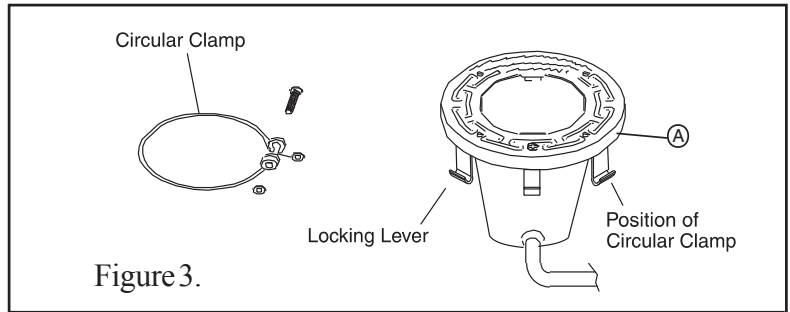

Figure 3.
- (1) With the light resting on its base, align the face ring, and lens/gasket on top of the light shell as described in Step 6. A NEW LENS GASKET MUST BE USED EACH TIME THE LIGHT IS REASSEMBLED. The locking levers should all be hanging freely down to install over the lens and gasket. Before installing the Unitension Clamp be sure that the gap at the ends of the clamp is approximately 1 in. apart. Pull the ends of the Unitension Clamp past one another to accomplish this.
- (2) With the bent ends of the circular unitension clamp pointing down spread the clamp and place it in the “U” recesses of the locking levers. Be sure the bent ends of the clamp are located between the pair of locking levers as shown in Figure 3, location A. Check to see that the clamp is properly engaged with all of the levers.